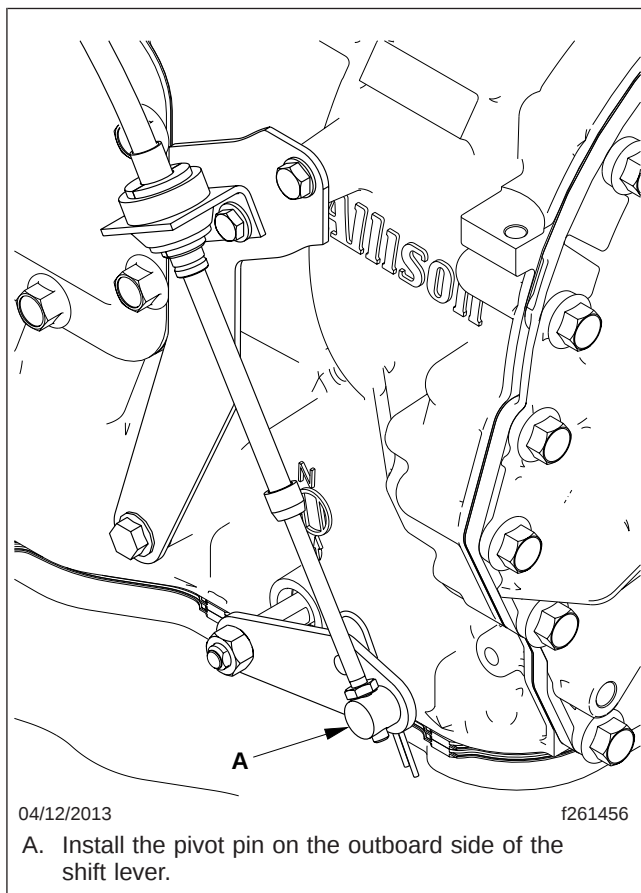

Fig. 6, Isolator Kit Installed
12. Install the pivot pin on the outboard side of the shift lever, as shown in **Fig. 6**.